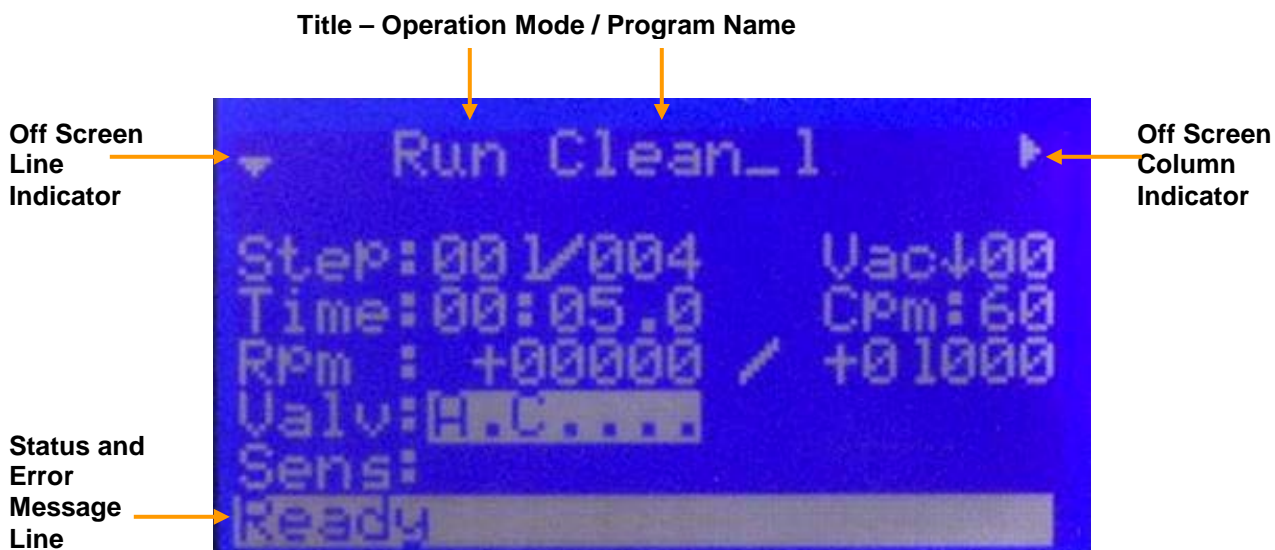

Figure 3-11
Press the “Run Mode” key to enter a selected program into the “run mode”. Figure 3-11 shows the “Run” screen.
The off-screen line indicator, see figure 3-11, appear at the upper left-most side of the display and uses up or down arrows, or both, to indicate additional menu lines either above or below the portion of the menu currently being viewed.
3.4.2.1 “RUN MODE” – DISPLAYED FIELDS – see figure 3-11